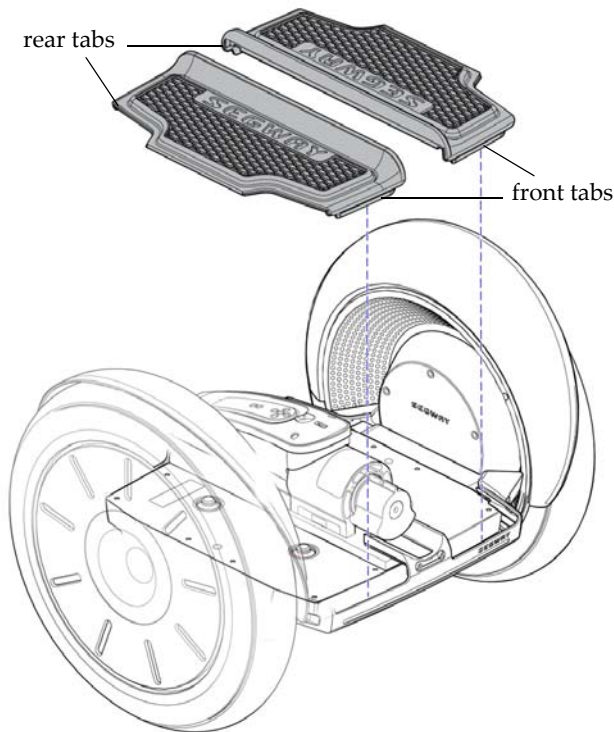

Figure 2-1: Remove or Install Mats
2. Lift mat off power base. See Figure 2-1.
4. Fit mat's rubber tabs into slots formed by gap between front and rear fascia and power base. See Figure 2-1.